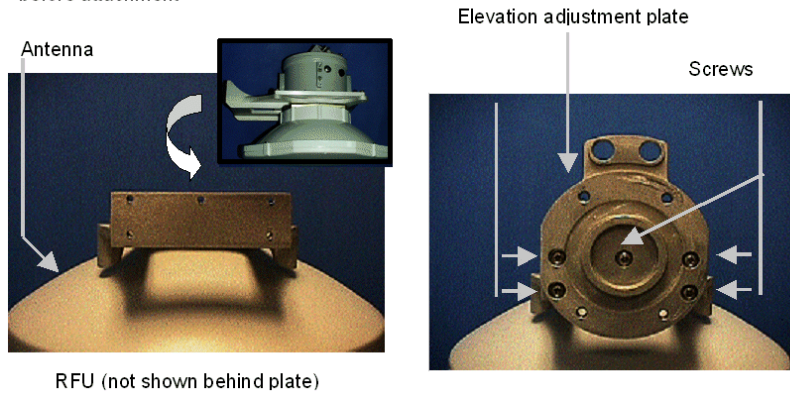

Figure 9-6: Elevation Adjustment Plate Attachment
1. Referring to Figure 9-6, attach the elevation adjustment plate (on the TS 28 GHz ODU assembly) to the antenna mount as shown in figures x and y. Use five ¼-20 pan head screws and split lock washers.